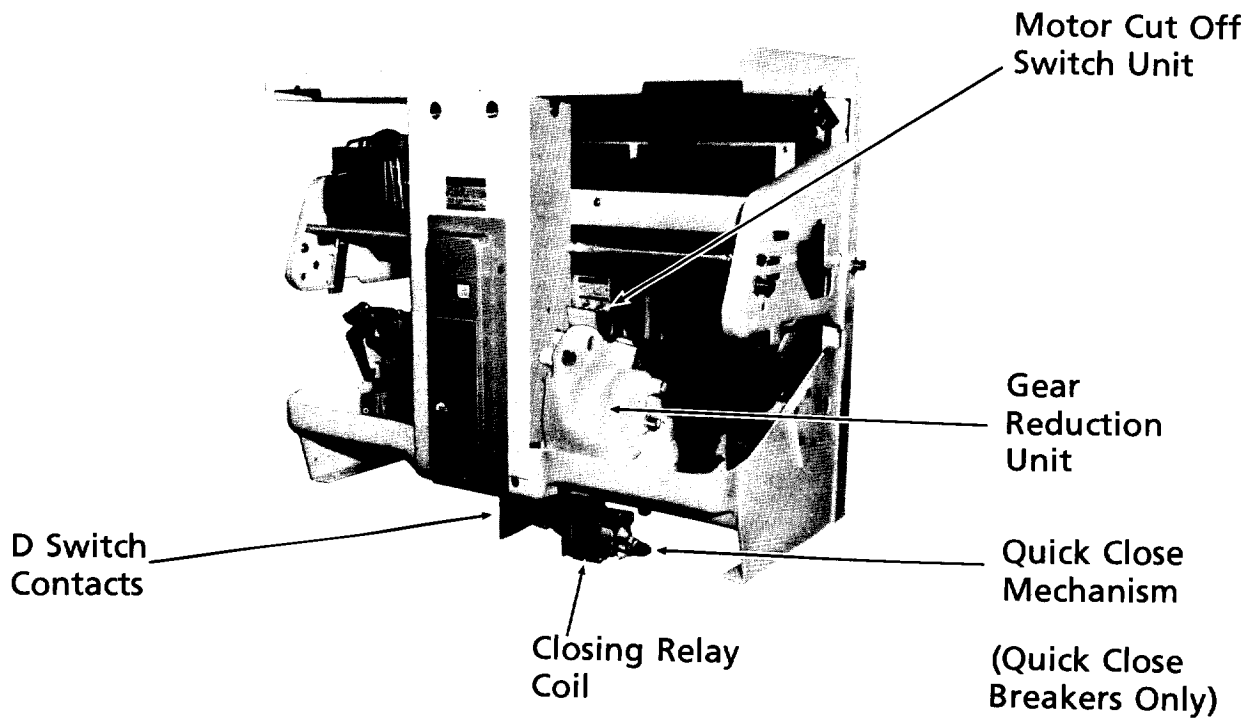

Fig. 2 — Typical components that will be replaced.
The following components will be removed from the breaker’s front frame (refer to Figs. 2 & 3)
6. Referring to the Elementary Quick Close wiring diagram, Fig. 1A, GEK 7303 and Fig. 2:
- b. Remove and identify the wires from the neutral and hot side of the closing relay coil (CC).
The following components will be removed from the breaker's front frame (refer to Figs. 2 & 3).